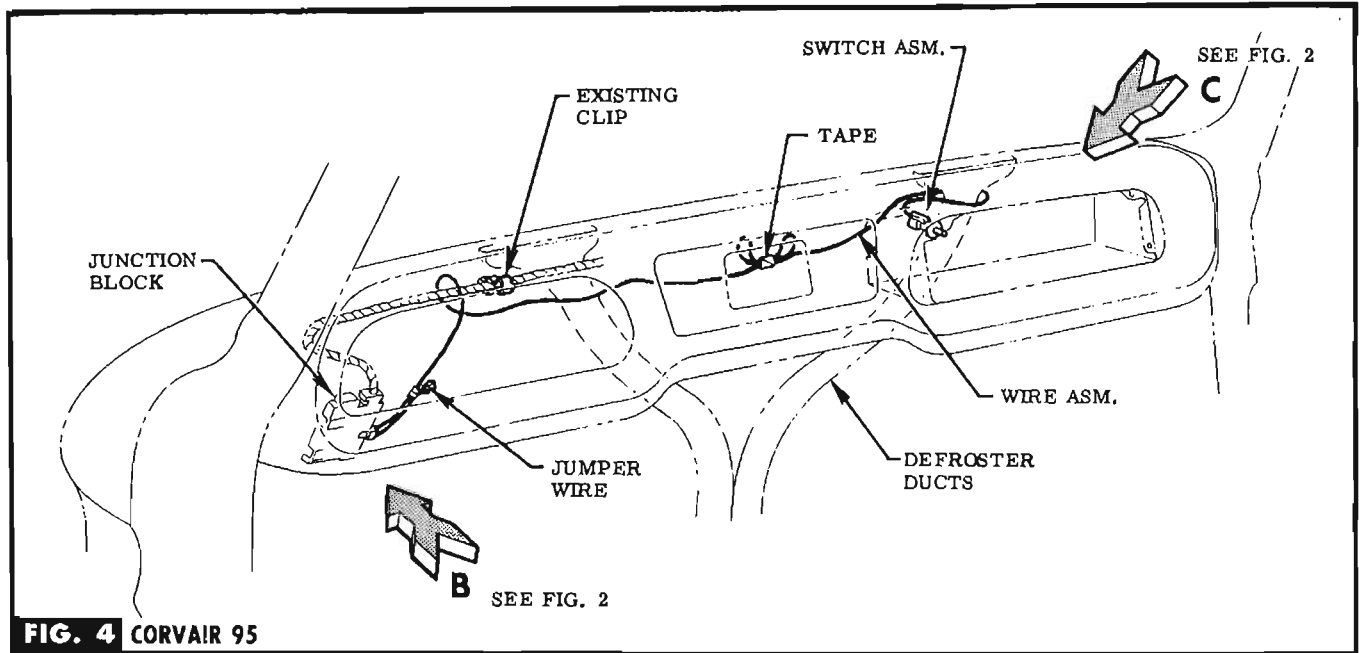

FIG. 4 CORVAIR 95
STEP 3b (CORVAIR 95) ROUTE WIRE TO JUNCTION BLOCK BY LOOPING AROUND R. H. DEFROSTER DUCT, PASS OVER L. H. DEFROSTER DUCT, LOOP AROUND EXISTING WIRING HARNESS ALONGSIDE OF EXISTING CLIP. SEE FIG. 4.